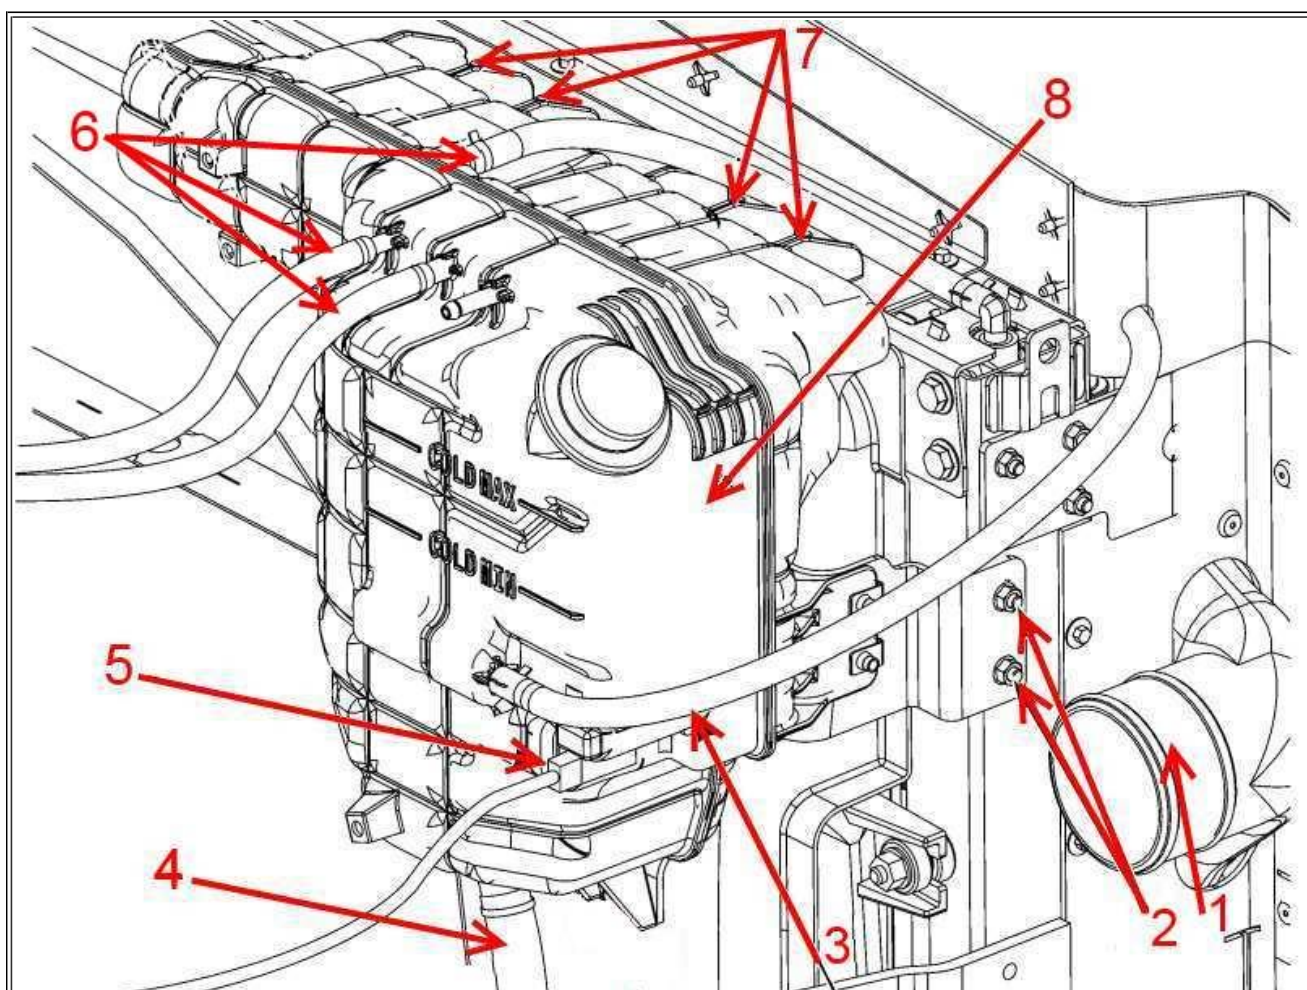

Figure 3: Dearation Tank Assembly
5. Loosen the clamp and remove the driver side HP CAC inlet pipe (**Figure 3**, Item 1).
6. Remove the 3 or 4 deaeration lines from the tank (depending on configuration. **Figure 3**, Items 3 & 6).
7. Disconnect the engine harness from the Engine Coolant Level Sensor (**Figure 3**, Item 5).
8. Remove the deaeration tank return hose (**Figure 3**, Item 4).
10. Remove the two nuts securing the mounting bracket to the radiator (**Figure 3**, Item 2).
11. Remove the four nuts securing the top of the tank to the radiator (**Figure 3**, Item 7), and remove the deaeration tank.